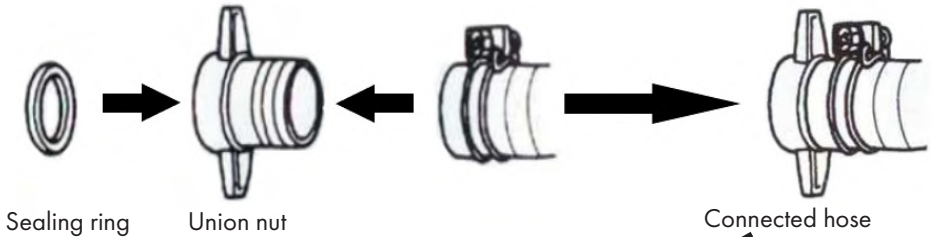

Figure 4
- Insert the hose connection piece into the union nut as shown in Fig. 4 and place the seal.